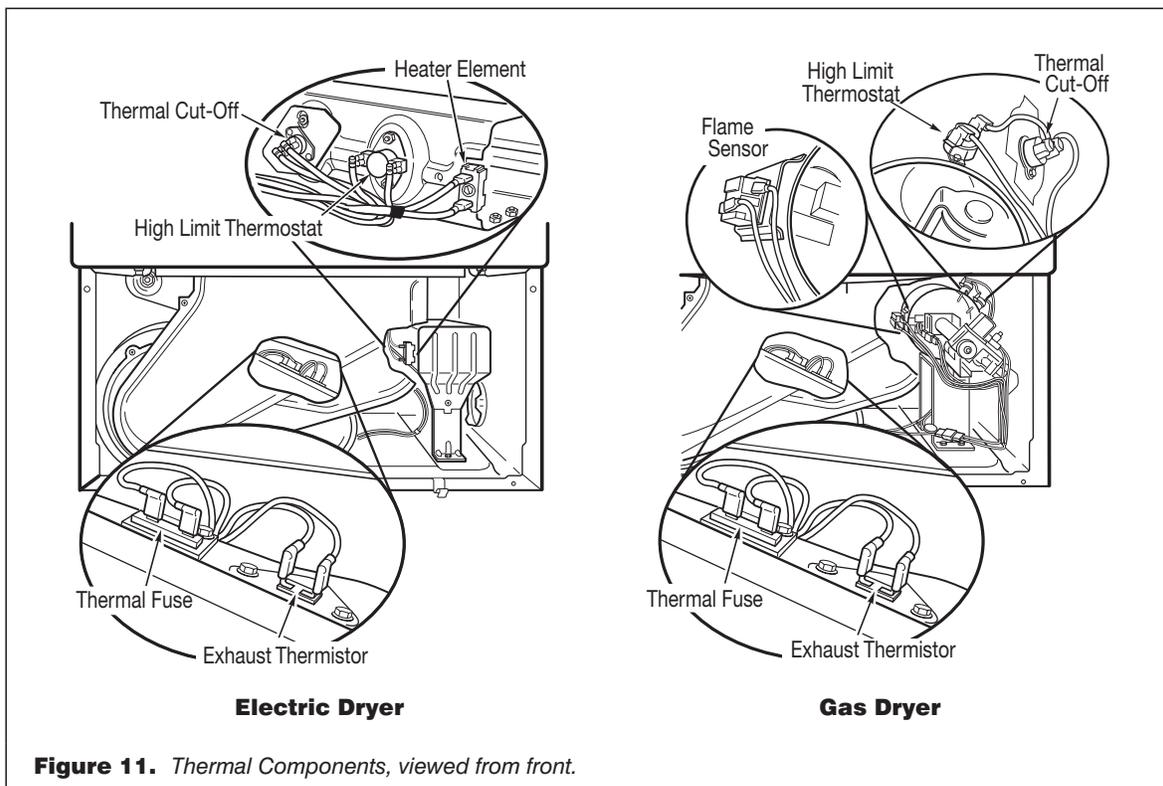

Figure 11. Thermal Components, viewed from front.
Locate the components using figure 11, page 8.
5. Locate the high limit thermostat. See figure 11. Measure the continuity through it by connecting the meter probes on the red wire and blue wire terminals.
- Check wire connections at the machine control electronics and thermistor. See Accessing & Removing the Electronic Assemblies on page 11, and for thermistor location, see figure 11.
2. Access the thermal fuse by first removing the toe panel. See Removing the Toe Panel, page 11; and for thermal fuse location, see figure 11, page 8.
3. Using an ohmmeter, check the continuity across the thermal fuse. See figure 11, page 8 for location.
3. Using an ohmmeter, check the continuity across the thermal cut-off. See figure 11, page 8 for location.